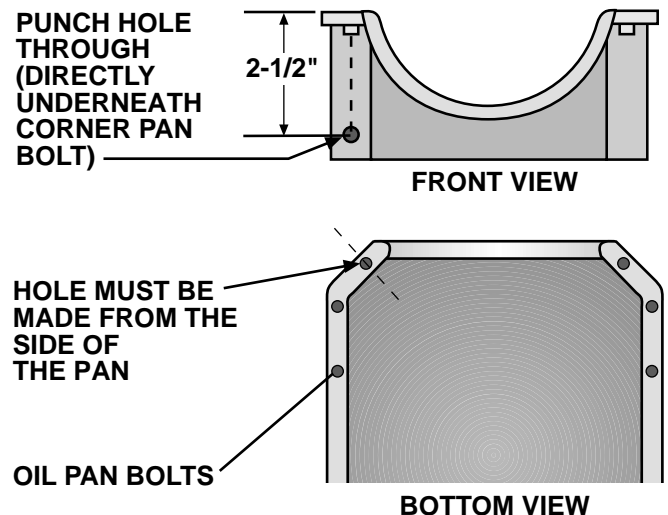

Fig. 2-a
- A. To provide an oil drain for the supercharger, it is necessary to make a hole in the oil pan. Locate and mark hole (see *Fig. 2-a*). It is best to punch the hole rather than drill.